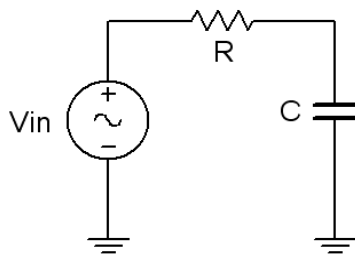

Figure 6.1
1. Using Figure 6.1 with $V_{in}=2$ V p-p sine at 10 kHz, $R=1$ k Ω , and $C=10$ nF, determine the theoretical capacitive reactance and circuit impedance, and record the results in Table 6.1 (the experimental portion of this table will be filled out in step 5). Using the voltage divider rule, compute the resistor and capacitor voltages and record them in Table 6.2.
2. Build the circuit of Figure 6.1 using $R=1$ k Ω , and $C=10$ nF. Place one probe across the generator and another across the capacitor. Set the generator to a 10 kHz sine wave and 2 V p-p. Make sure that the *Bandwidth Limit* of the oscilloscope is engaged for both channels. This will reduce the signal noise and make for more accurate readings. Also, consider using *Averaging* for the acquisition mode, particularly to clean up signals derived using the *Math* function.
3. In general, how would the phasor diagram of Figure 6.1 change if the frequency was raised?